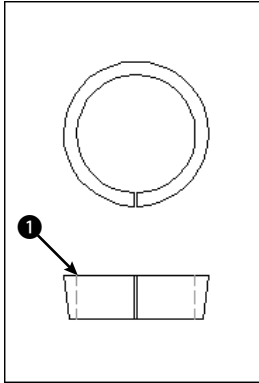

Figure 9-9: The valve piece in two views.
2. Save the file as `ab09-06.dwg` in your AutoCAD Bible folder. This drawing, shown in Figure 9-9, shows part of a valve that is manufactured in several sizes. In this exercise, you scale both views to represent a different-size valve piece. Ensure OSNAP is on. Set running object snaps for quadrant and endpoint.
Specify base point: *Use the Endpoint object snap at point 1 in Figure 9-9.*